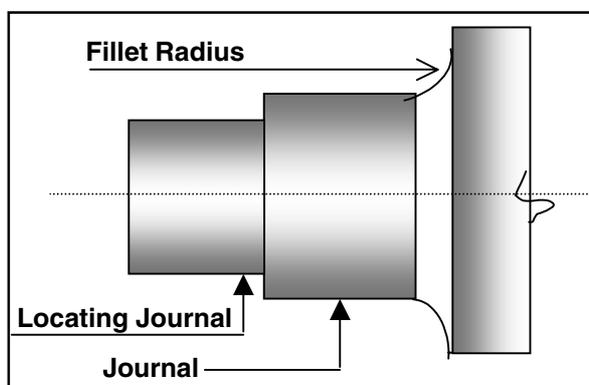

Fig.9-9
- Fillet radius of journals and pins must be maintained as per specification. Fig.9-9